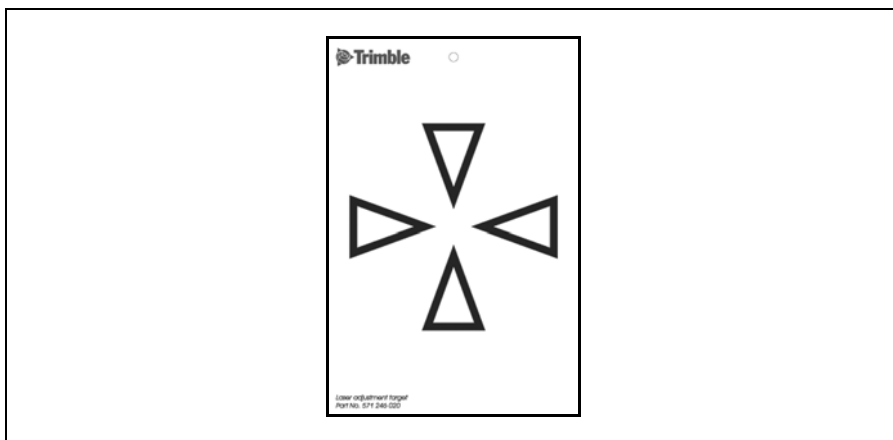

Figure 4.28 Adjustment target for DR PLUS
3. If the red laser spot lies outside the cross-hairs, adjust the direction of the beam until it matches the cross-hairs, see Figure 4.28